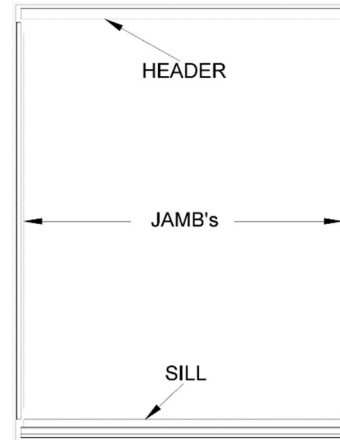

Figure 3
3.2 Match the black vinyl thermal break on all sections and assemble the frame using the #6 x 3/4" panheads screws (#3). Refer to figure 3.